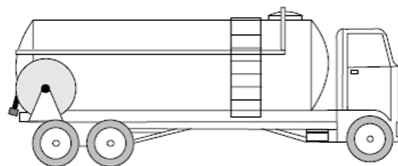

Figure 2
- a) The hose reel of a heating-oil tanker truck is driven by a **hydraulic motor**. This must allow the hose to be unwound, the reel to be stopped for a lengthy period, and the hose to be wound up again. A 4/3-way valve is to be used to obtain this function. (Refer figure 2).